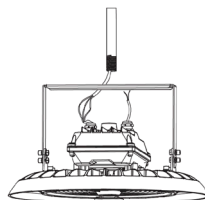

Fig. 10
3. Tighten the nuts. (Fig. 10)